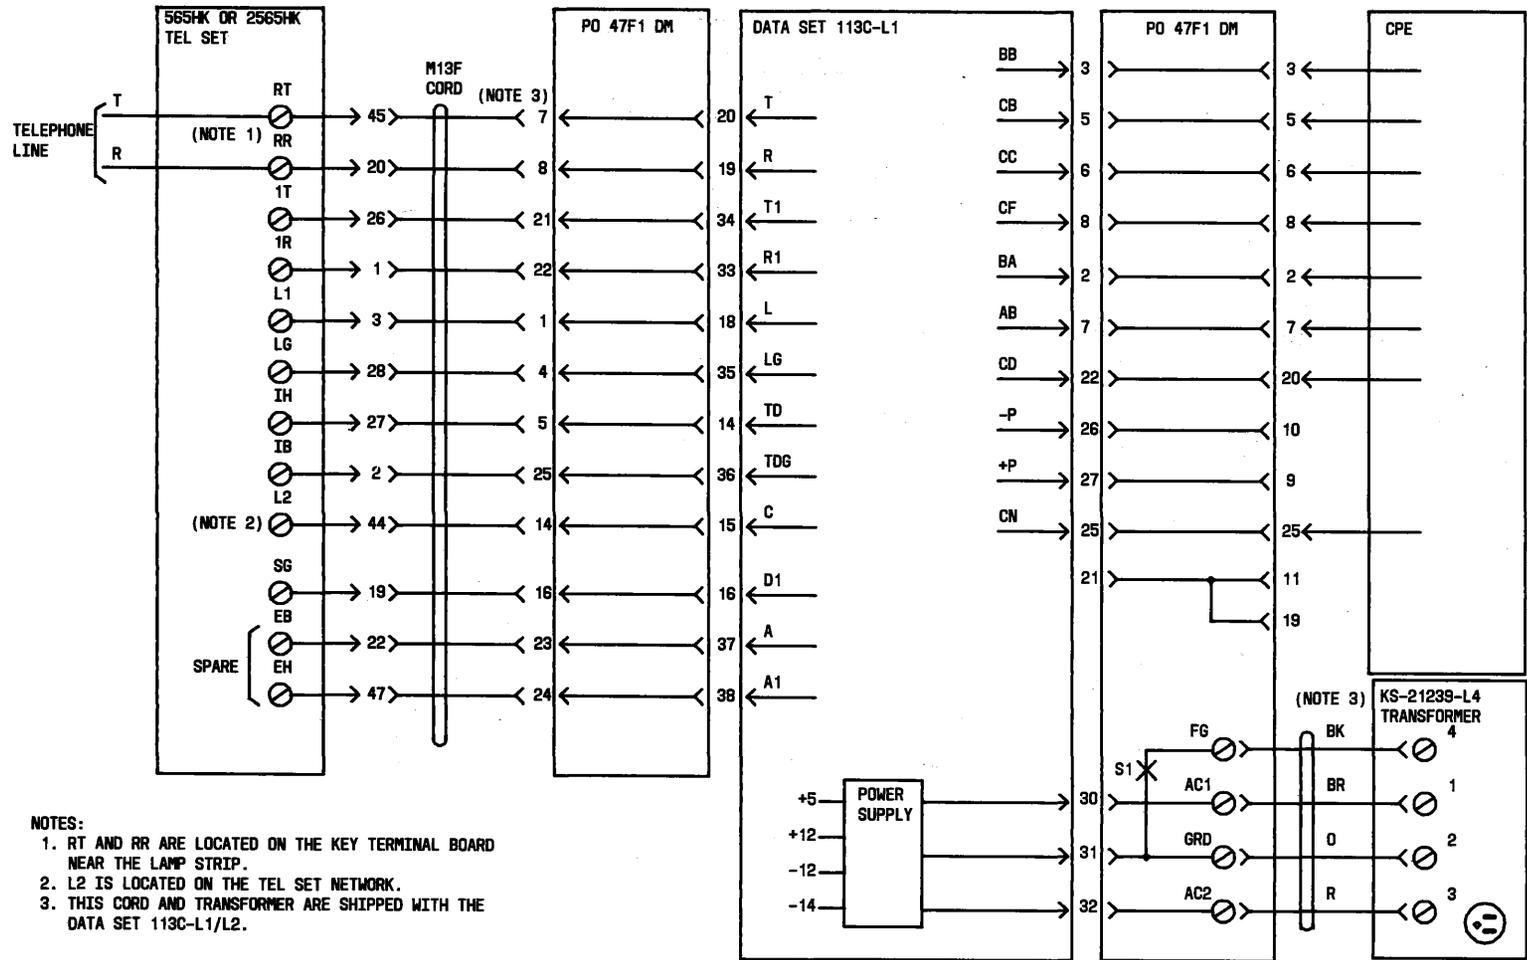

Fig. 6—DS 113C-L1/2 Installation With 565HK Telephone Set—Connection Diagram
- (1) Individually tape and store the O-V and V-O leads connected to terminals P1 and P2 on the 41-type dial in the telephone set.
- (2) Connect one output terminal on the 2012B transformer to P1 and the other output terminal to P2.
**5.04 DS 113C-L1/2 Without ACU:** When a single DS 113C-L1/2 is installed without an ACU, connect tip and ring in the associated telephone set and connect the cables as shown in Fig. 5. Figure 6 provides detailed wiring information for the single data set installation without ACU. This information is useful in troubleshooting.